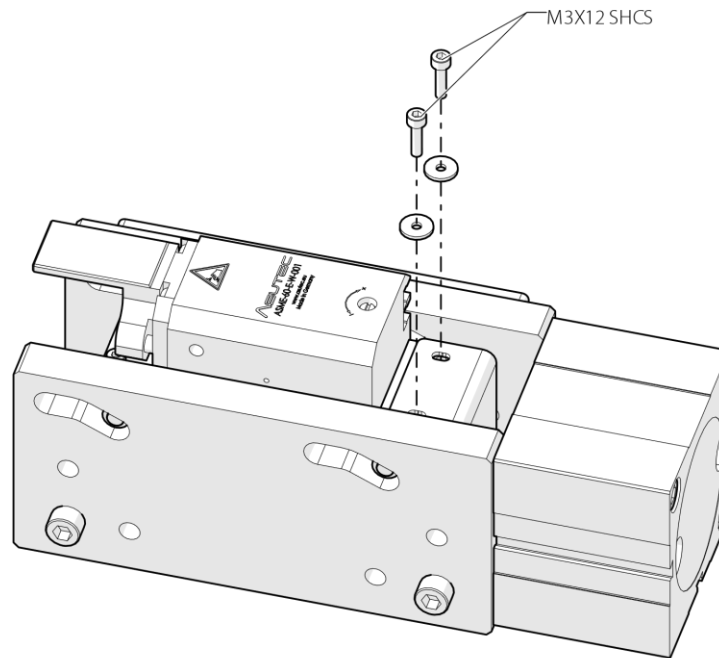
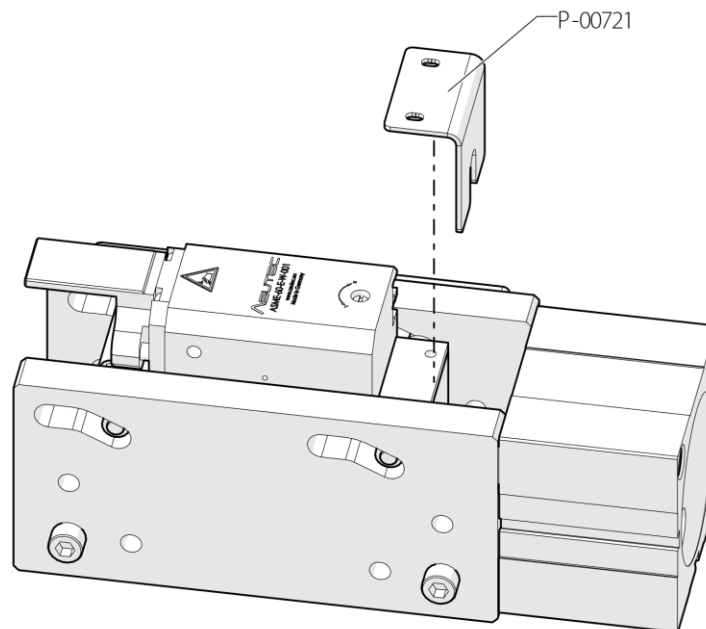

Figure 36: Removing Hardware for P-00721
Figure 37: Removing P-00721
Step 3: Remove hardware securing P-00721 as shown in Figures 36 and remove P-00721 shown in Figure 37.